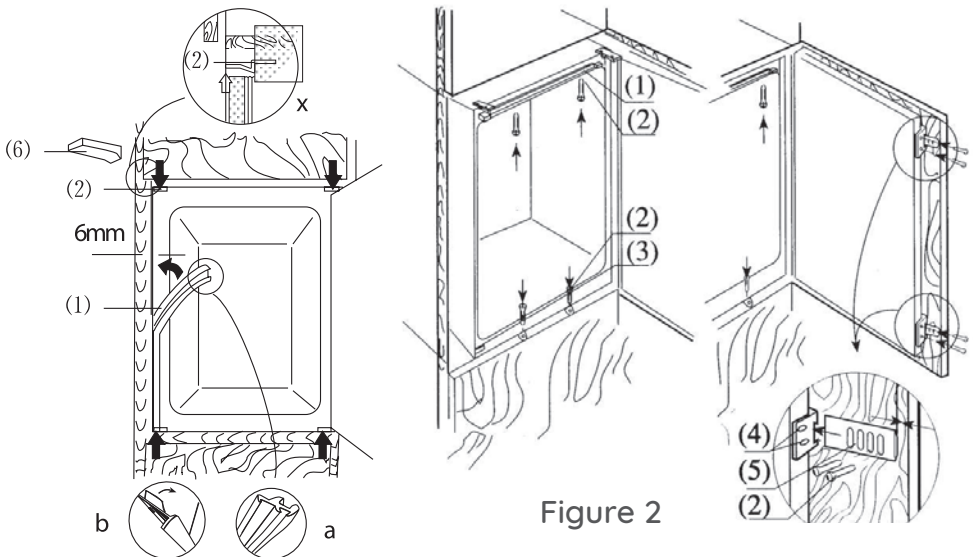

Figure 2
• Installation (Figure 2)
2. Pass the power cable through the cabinet so that it can be connected to the outlet after installing the appliance. Remove the cover (6) only if there is no space.
3. Place the refrigerator in the cabinet. Secure the mounts (1) with the screws (2) to the frame at the top after pushing the refrigerator into the niche for two thirds. Then push the refrigerator all the way while checking that the cleat of the watches casts on the horizontal frame of the cabinet.